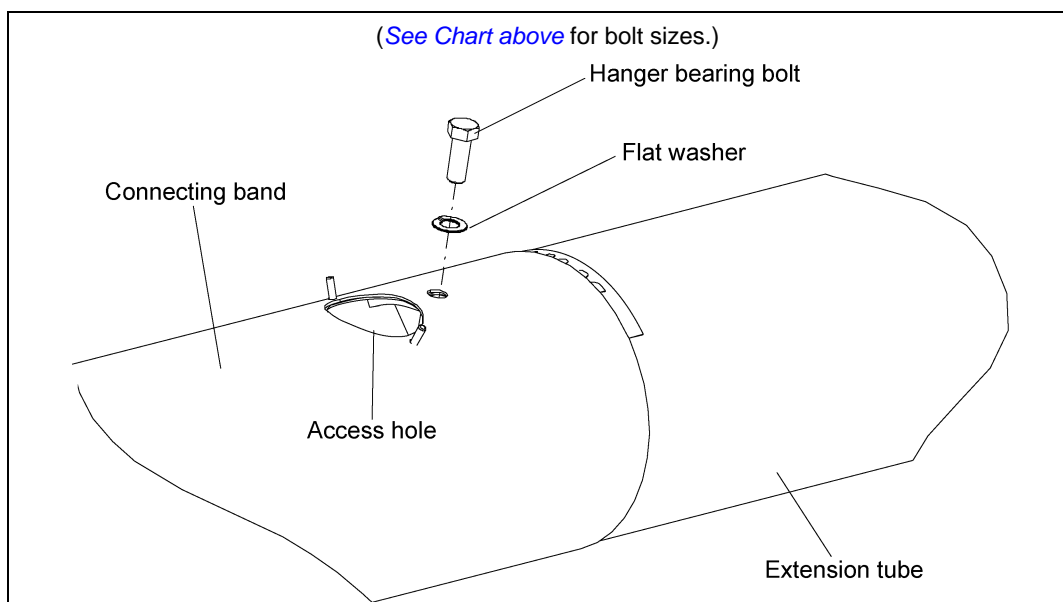

Figure 4T
4. With tube sections pressed flush against each other slide connecting band over the tubes aligning the holes. Reach through the access hole and align hanger bearing with the bolt hole. Attach the hanger bearing to the tube using assigned hardware. (See Chart below and Figure 4T.)